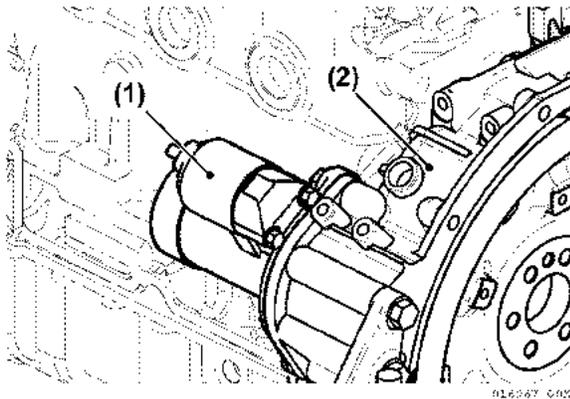

Figure 5-10
7. Remove the starting motor from the flywheel housing (Figure 5-10).